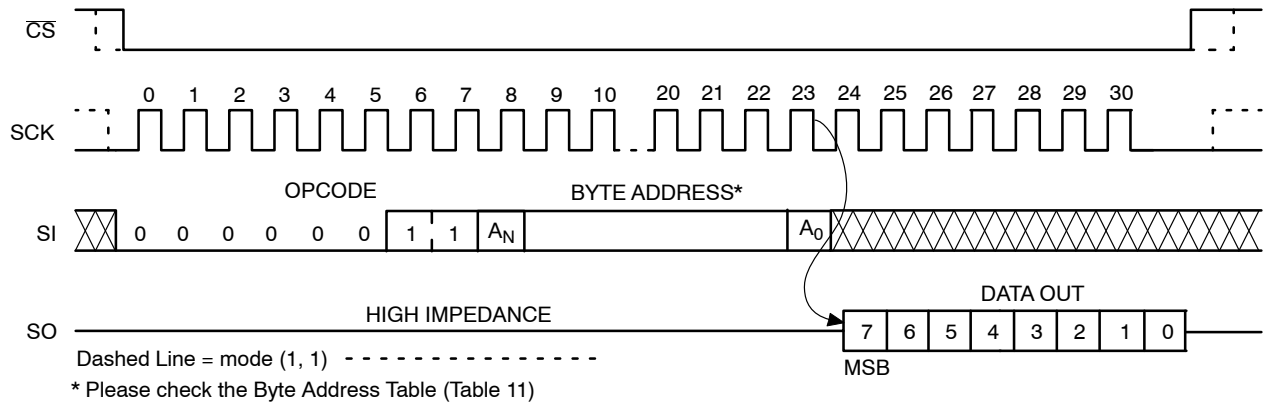

Figure 9. READ Timing
After receiving the last address bit, the CAV25128 will respond by shifting out data on the SO pin (as shown in Figure 9). Sequentially stored data can be read out by simply continuing to run the clock. The internal address pointer is automatically incremented to the next higher address as data is shifted out. After reaching the highest memory address, the address counter “rolls over” to the lowest memory address, and the read cycle can be continued indefinitely. The read operation is terminated by taking  $\overline{CS}$  high.
Reading the additional 64-byte Identification Page (IP) is achieved using the same Read command sequence as used for Read from main memory array (Figure 9). **The IPL bit from the Status Register must be set (IPL = 1) before attempting to read from the IP.** The [A5:A0] are the address significant bits that point to the data byte shifted out on the SO pin. If the  $\overline{CS}$  continues to be held low, the internal